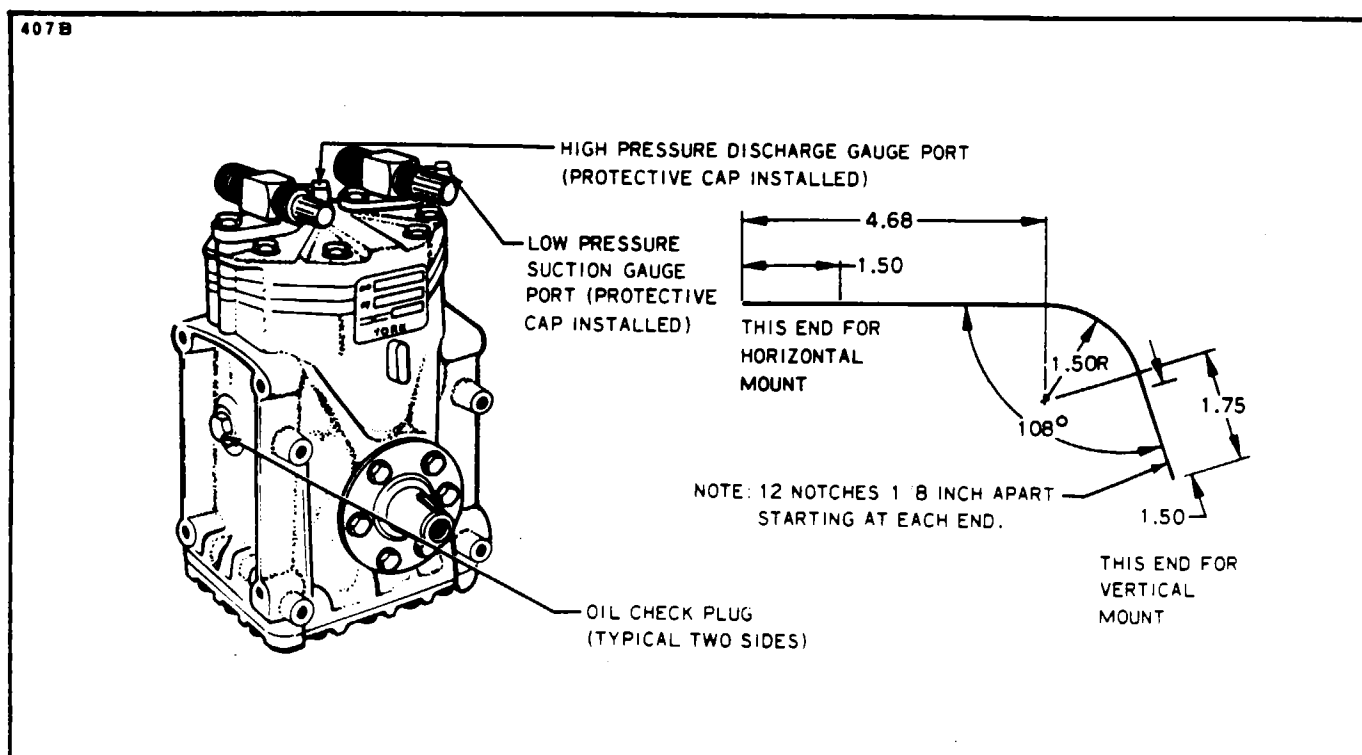

Figure 14-39. Compressor and Fabricated Oil Dipstick
14-103. COMPRESSOR OIL LEVEL CHECK. (Refer to Figure 14-39.)
- a. Anytime the air conditioning system is discharged, the oil level in the compressor should be checked. The dipstick required for this check is shown in Figure 14-39.
- h. Connect the blue, low pressure, charging line to the low pressure gauge port. (Refer to Figure 14-39.)